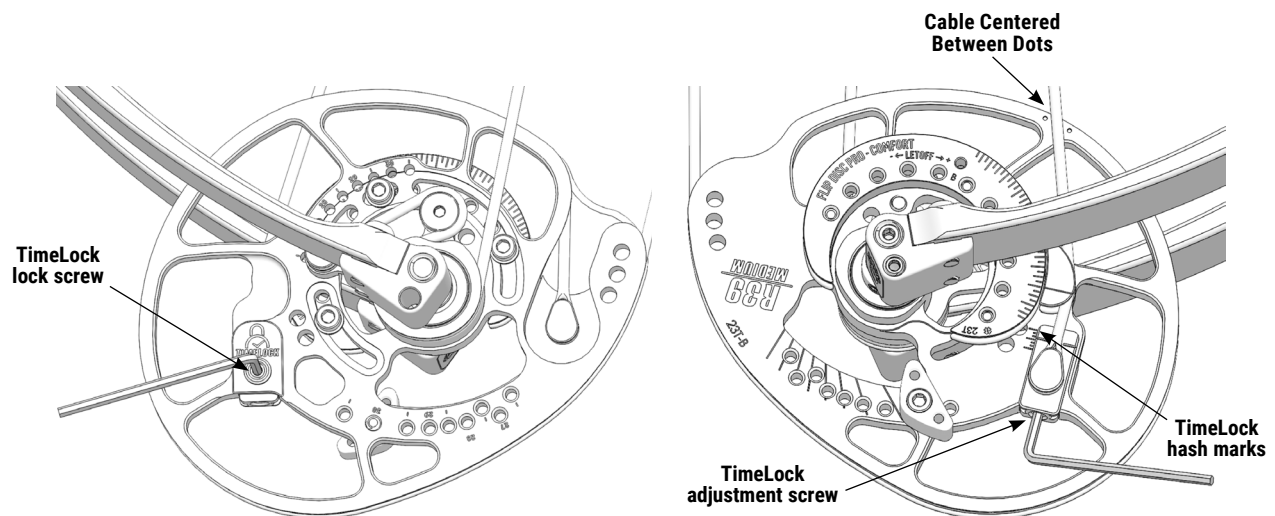

Figure 6: TimeLock Adjustment
There are small indentations or "timing dots" on the side of the cam near its perimeter. When viewing the bow directly from the side of the cam, the cable should be approximately centered in between the timing dots as shown in Figure 6.
2. Use the 5/64 inch hex key to turn the TimeLock adjustment screw. Doing so will slightly change the orientation of the cam. Continue to adjust the TimeLock adjustment screw until the desired cam position is achieved (see Figure 6). **NOTE:** The hashmarks on the cam next to the TimeLock anchor post may aid in adjustment. Each hashmark equates to approximately 1 full twist in/out of the corresponding cable.